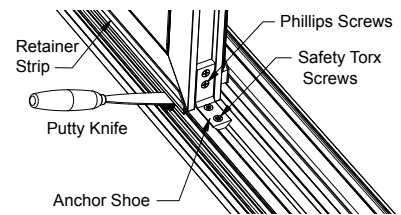

Figure 13 — Clip & Anchor Shoe
4. On the exterior of the panel, carefully remove the retainer strips located around three sides of the panel that contact the frame (**Figure 13**).